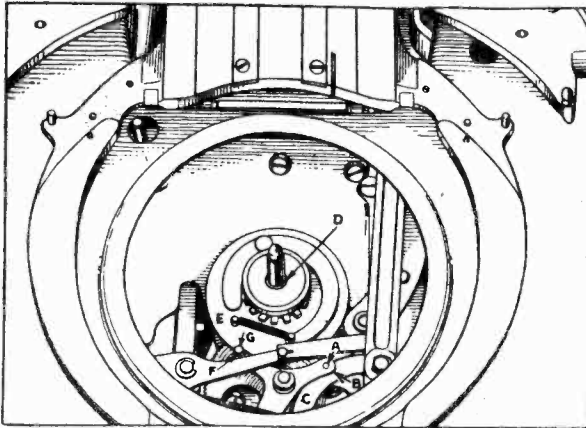

Fig. 18—Method of Timing Gears
- b. Turn the mechanism by hand until the roller A, Fig. 18, is engaged in the slot B of the cam gear C.